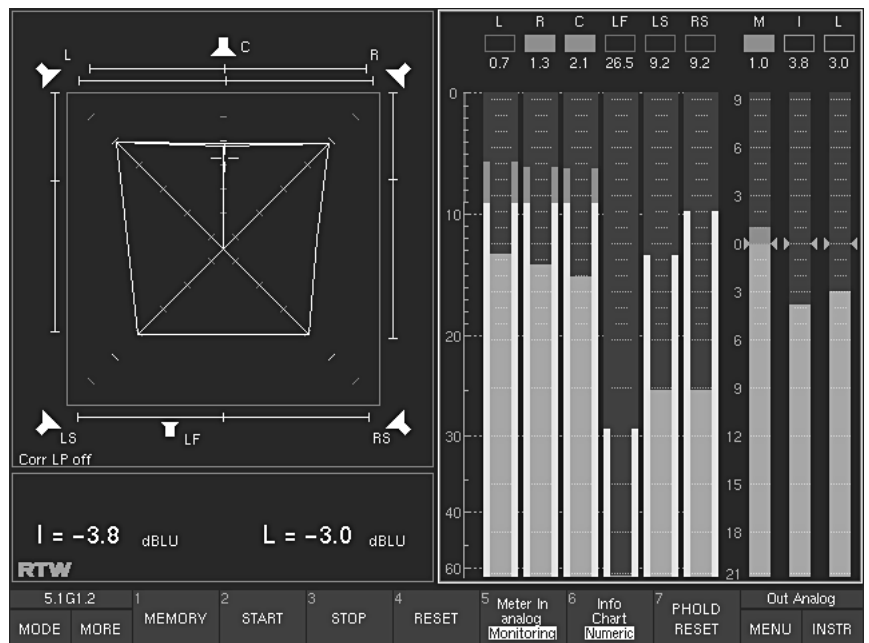

Fig. 5-9: The functions of the ITU BS.1771 Loudness Meter displayed in the Toolbar
(Button/Key 1, see Fig. 5-9)
(Button/key 2, see Fig. 5-9)
(Button/key 3, see Fig. 5-9)
(Button/key 4, see Fig. 5-9)
(Button/key 5, see Fig. 5-9)
(Button/key 6, see Fig. 5-9)
(Button/key 7, see Fig. 5-9)